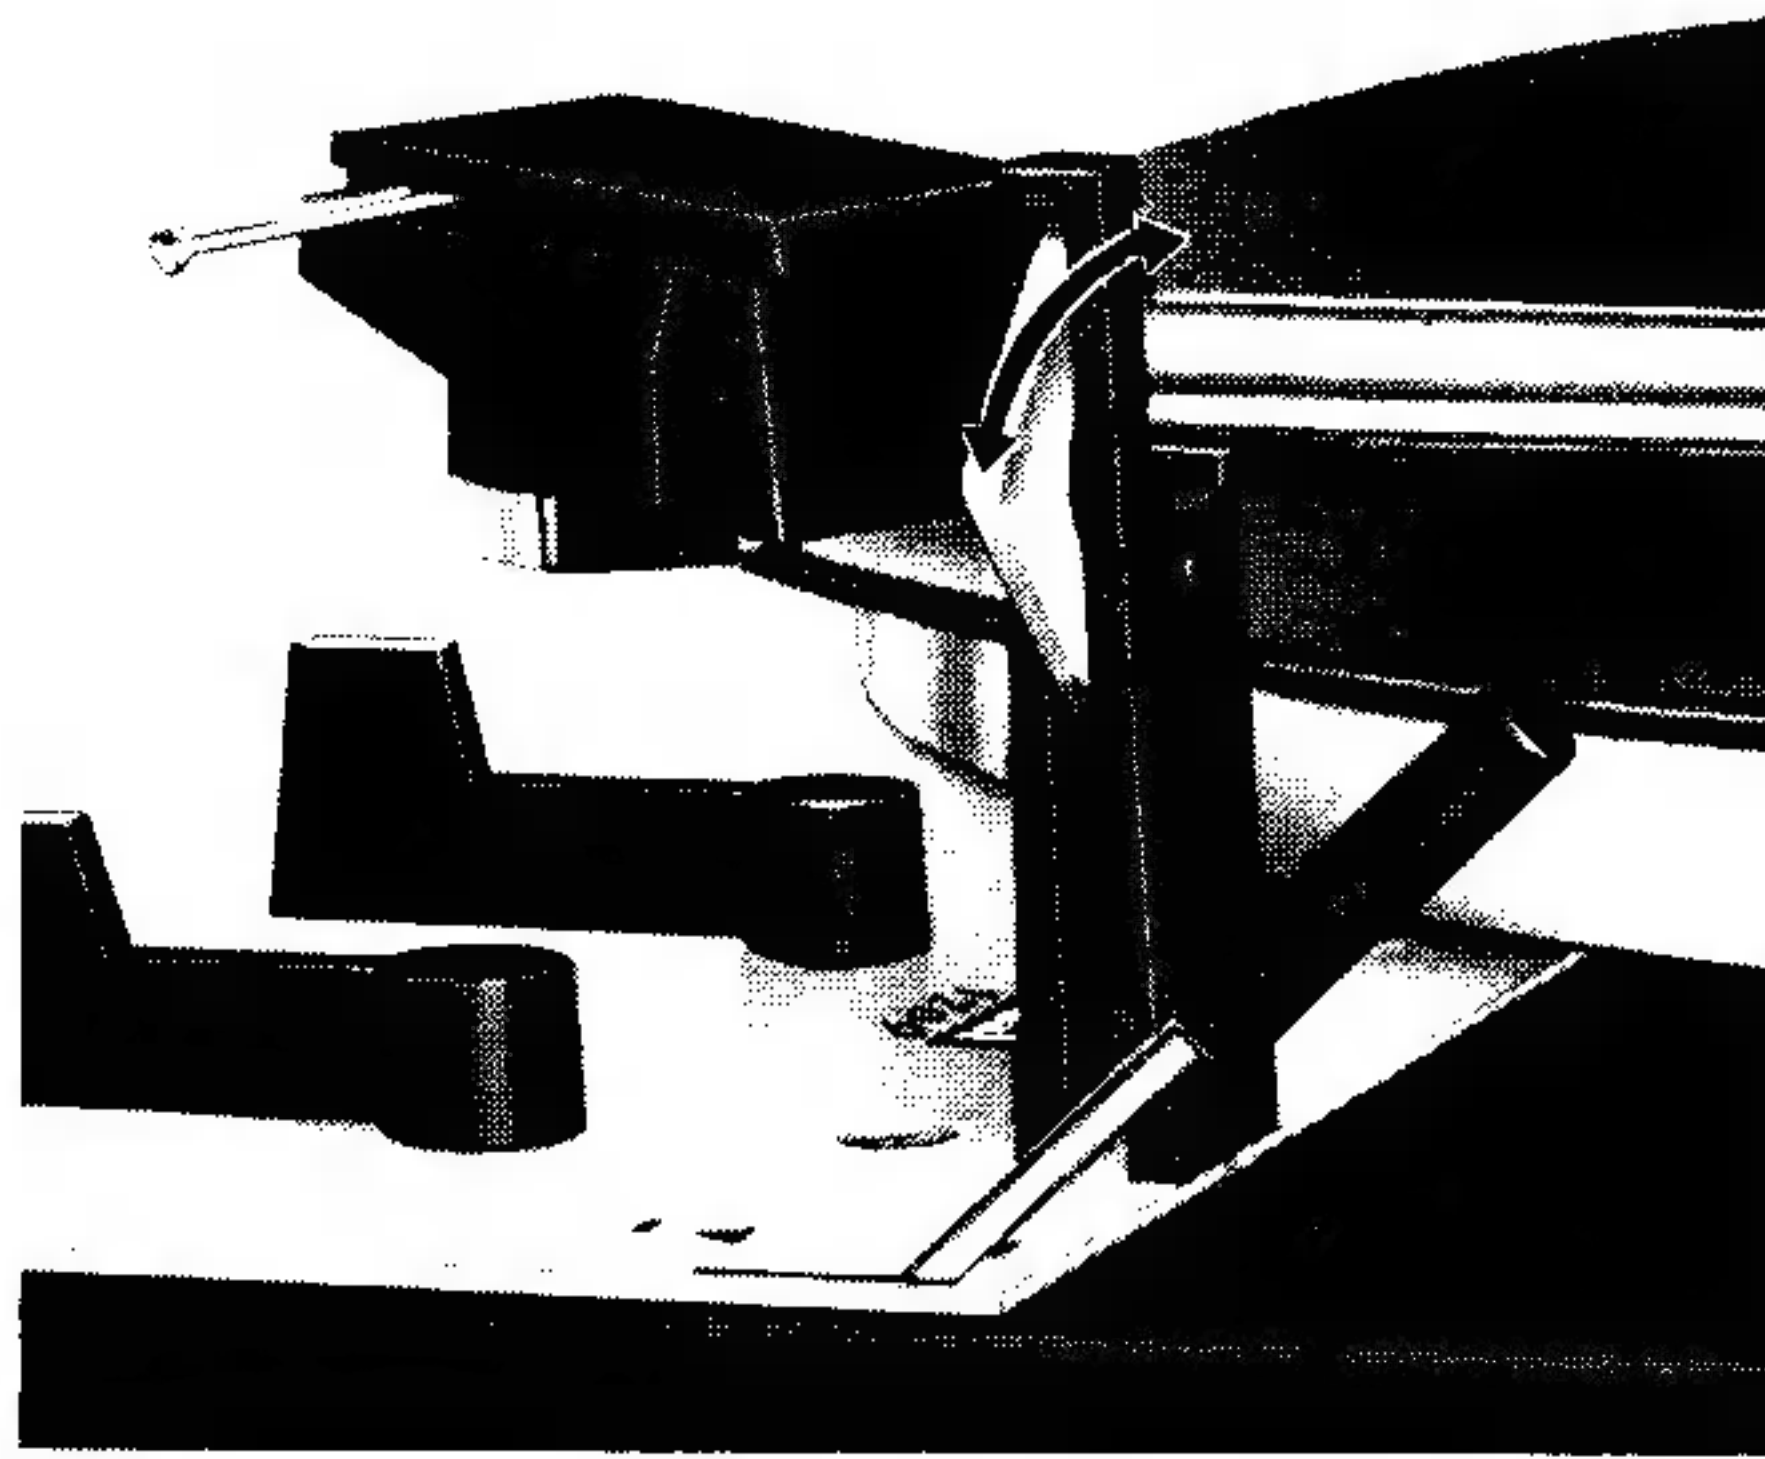

Fig. 7
Select the appropriate turntable speed ②, set the record size selector to 7", 10" or 12", depending on the size of the record you want to play, and unlock the tonearm (Fig. 7).
Note: After a single record has played, or after the last record in a stack has played, the tonearm will return automatically to its rest and the motor will shut off. It is advisable then to lock the tonearm on its rest (Fig. 7).